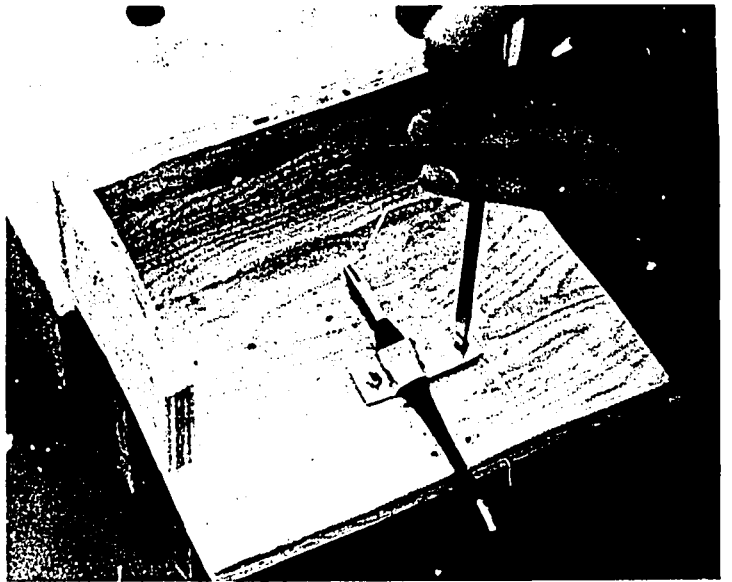

Fig. 116-2. Fastening the Glass Cutter
11. Fasten the glass cutter in place using the straps and screws which have been provided. See Figs. 116-2 and 116-3.